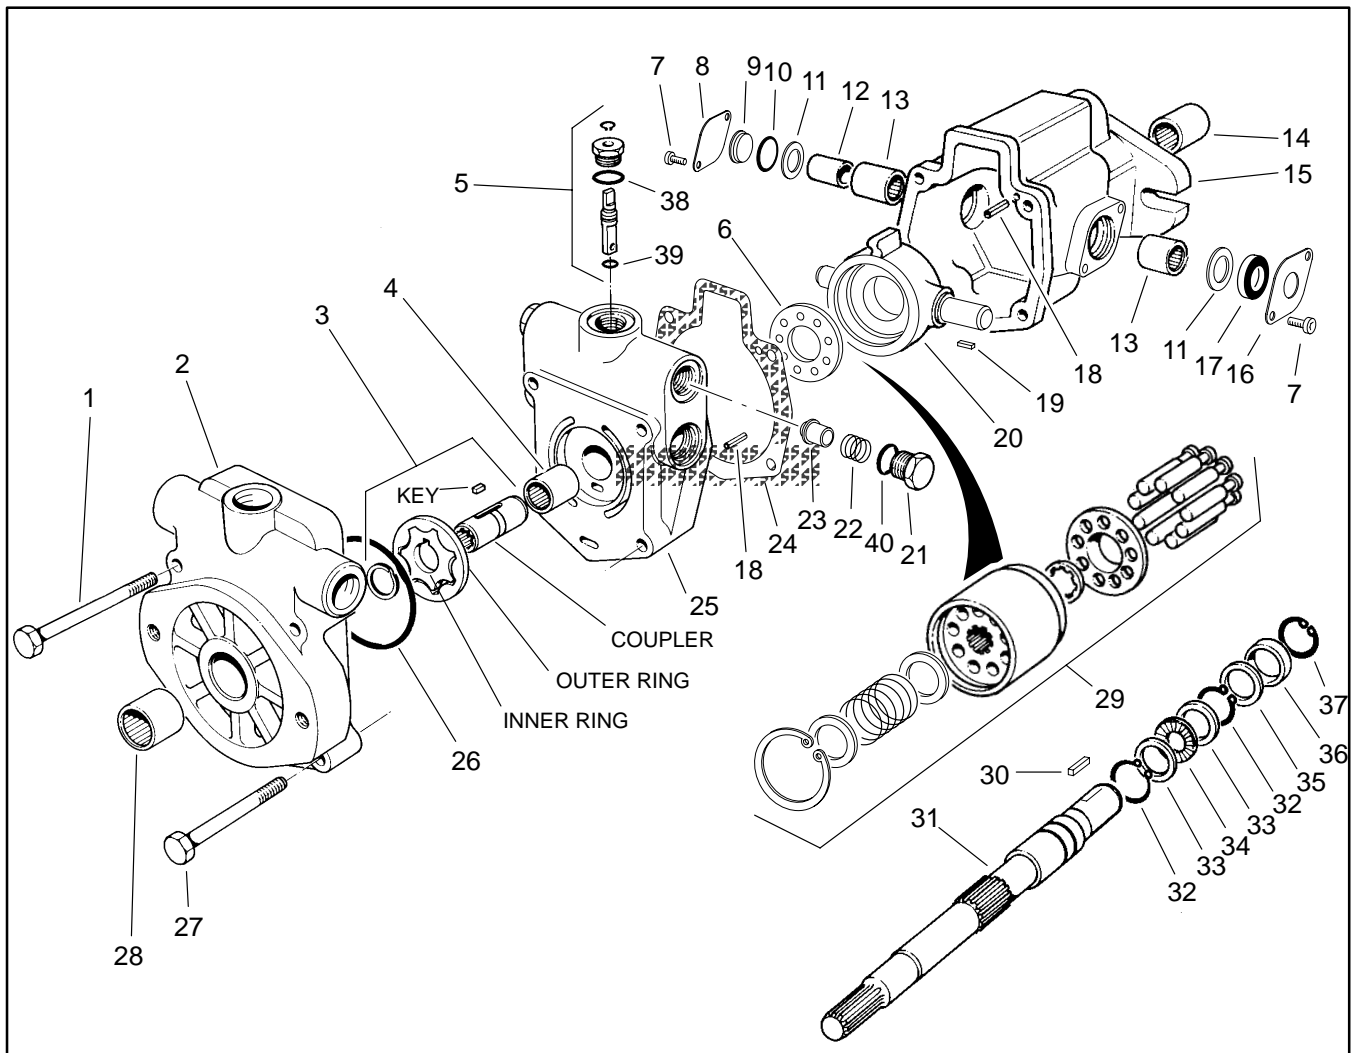

Figure 24
Disassembly (Fig. 24)
3. Inspect backplate assembly (25) (see Fig. 24).
4. Inspect camplate assembly (20) (see Fig. 24). There should be no signs of scoring on the piston shoe surfaces.
5. Inspect housing assembly (15) (see Fig. 24).